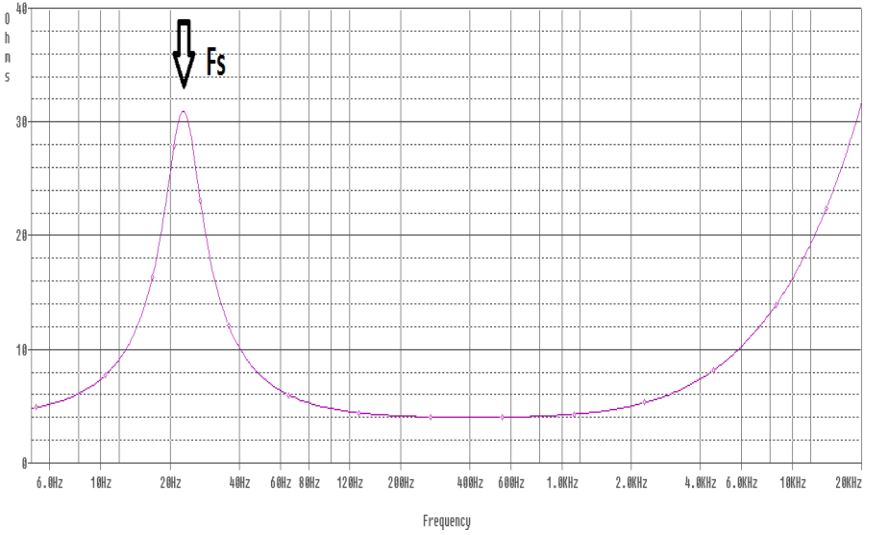

Figure 1, Impedance curve of a single 4 ohm voice coil, 15 inch subwoofer. Notice the  $f_s$  at 24 Hz.
4. After the unit is operating, adjust the frequency to the low end of the  $f_s$  range in the chart below. Then slowly raise the frequency until the peak in impedance is found. If you go too far and pass the peak, just back down the frequency until the peak in impedance is found. Figure 1 shows the impedance curve for a 15 inch woofer we tested. We measured the  $f_s$  to be 24Hz.